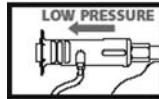

Figure 9
- For high pressure rinse move lance head to back position (Figure 5) and for low pressure rinse move lance head to forward position (Figure 9).